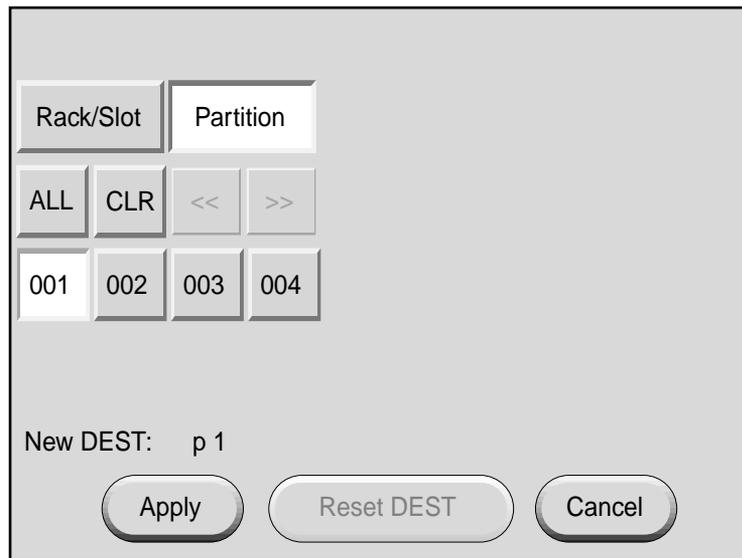

Figure 1-11 Selecting Individual Partition
5. You can select all partitions by selecting **ALL** on the partition selection window, or you can select a single partition or multiple partitions by selecting the individual partition numbers. Figure 1-11 shows partition 001 selected.